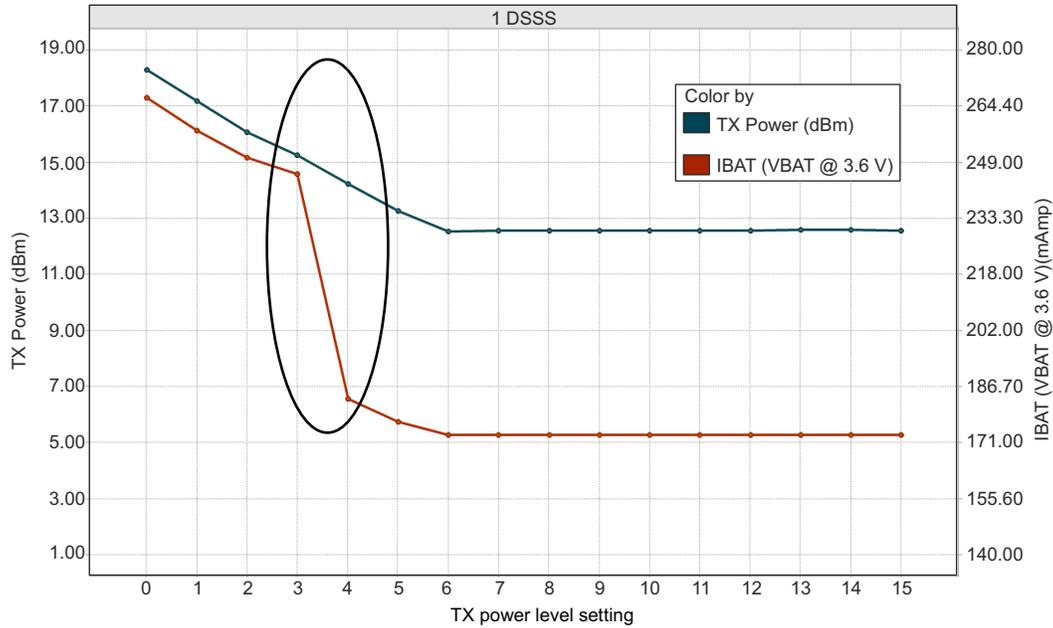

Figure 8-1. TX Power and IBAT vs TX Power Level Settings (1 DSSS)
- (1) TX power level = 0 implies maximum power (see Figure 8-1, Figure 8-2, and Figure 8-3). TX power level = 4 implies output power backed off approximately 4 dB.
- (2) The CC3235x system is a constant power-source system. The active current numbers scale based on the VBAT voltage supplied.
- (3) Typical numbers assume a VSWR of 1.5:1.
- (4) DTIM = 1
- (5) LPDS current does not include the external serial flash. The LPDS number of reported is with retention of 256KB of MCU SRAM. The CC3235x device can be configured to retain 0KB, 64KB, 128KB, 192KB, or 256KB of SRAM in LPDS. Each 64-KB block of MCU retained SRAM increases LPDS current by 4 µA.
- (6) The complete calibration can take up to 17 mJ of energy from the battery over a period of 24 ms. Calibration is performed sparingly, typically when coming out of HIBERNATE and only if temperature has changed by more than 20°C. The calibration event can be controlled by a configuration file in the serial flash.
Figure 8-1, Figure 8-2, and Figure 8-3 show TX power and IBAT versus TX power level settings for the CC3235S device at modulations of 1 DSSS, 6 OFDM, and 54 OFDM, respectively. For the CC3235SF device, the IBAT
In Figure 8-1, the area enclosed in the circle represents a significant reduction in current during transition from TX power level 3 to level 4. In the case of lower range requirements (14-dBm output power), TI recommends using TX power level 4 to reduce the current.